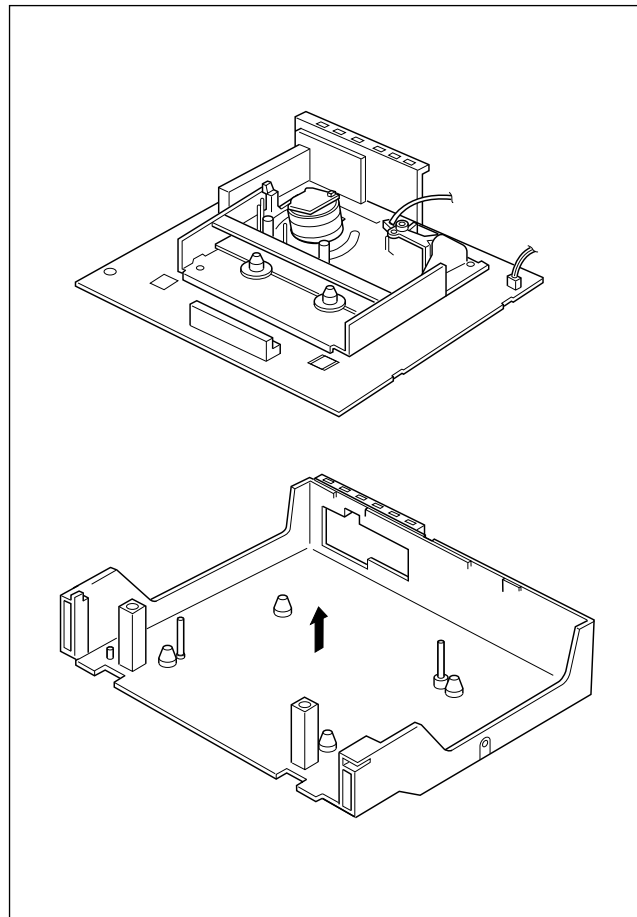

Fig. 1-4-2
- (4) Take out 1 screw (D) and 1 screw (E).
- (5) Remove the Main board and Mechanism assemblies together while holding the edge of the Main board assembly. At this stage be careful of the power cord and prongs of the jacks on the back side. (See Fig. 1-4-2.)